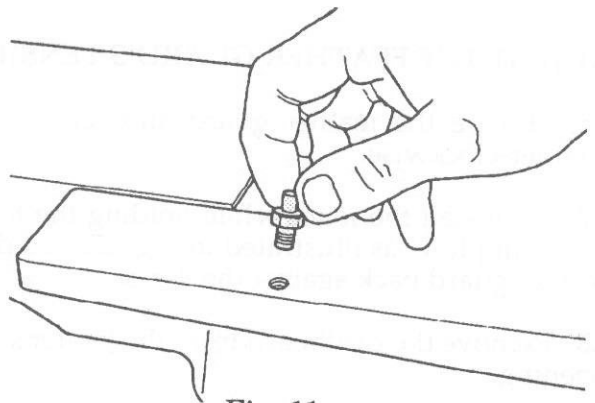

Fig. 11
18. Thread the stop stud (16) (use the **black** one if you drilled your own hole according to Steps 10-16, and **silver** if your jointer already had a hole), into the jointer table, as shown in Fig. 11.